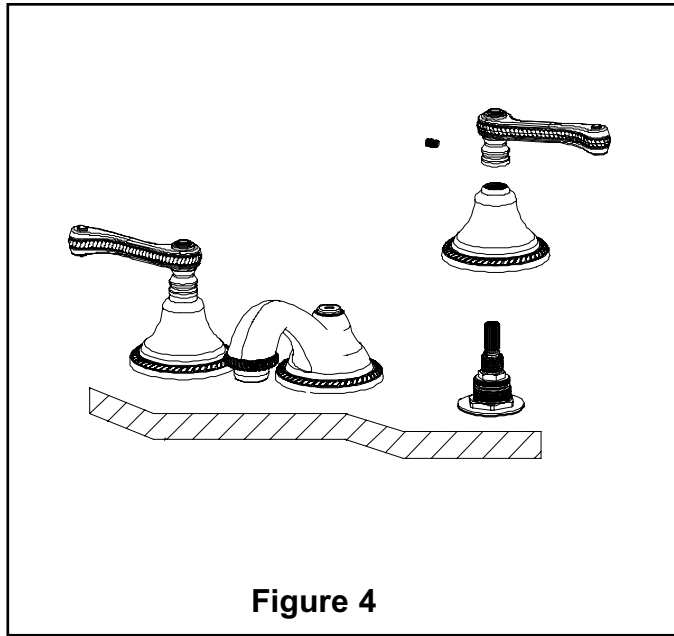

Figure 4
6. Attach escutcheon/bonnet and handles. Any adjustments for rotational alignment must be made to the valve body - not to the cartridge. (Note: Allow minimum spacing between handles and escutcheon/bonnet to prevent damage to the surface finish.) Secure handles into place with setscrew. See Fig. 4